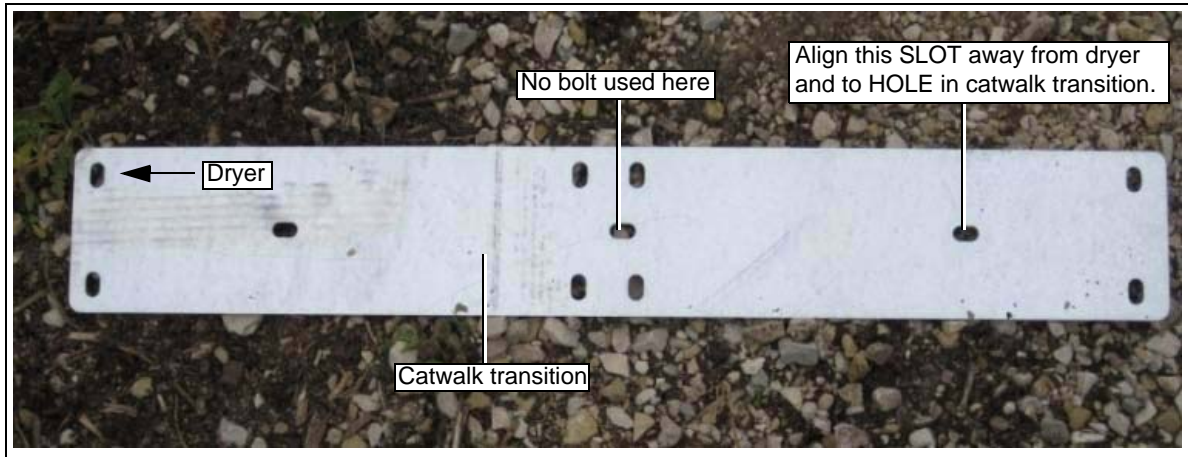
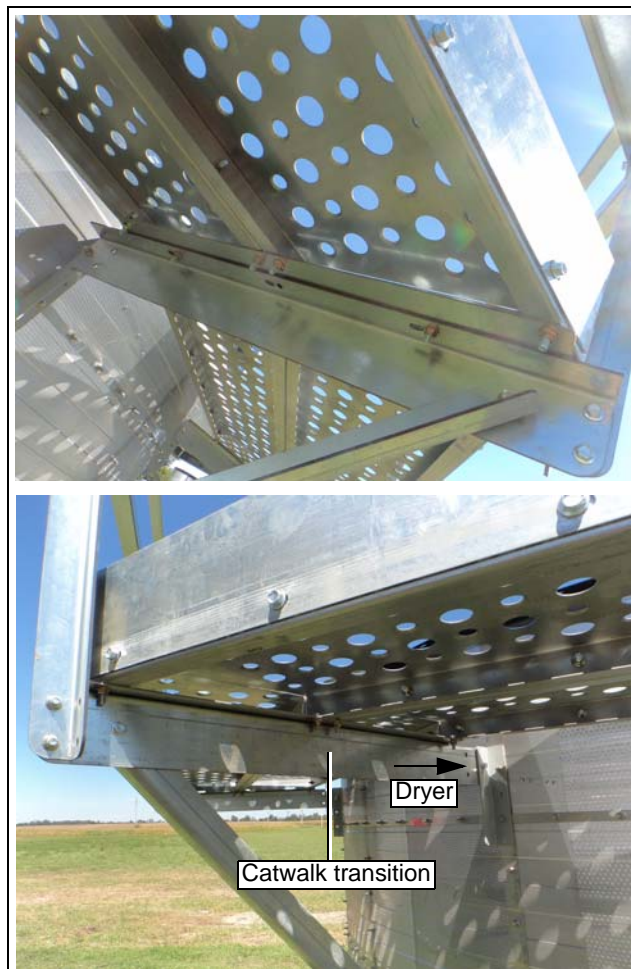

Figure 8W
Figure 8X
11. After attaching the catwalk brace to the catwalk brackets on the dryer wall, attach a catwalk transition to the top of each catwalk brace. (See Figure 8X.)
IMPORTANT: Note the hole alignment on the catwalk transition. The “five (5) hole” pattern near the center of the transition **MUST** be oriented so that the center hole is **AWAY** from the dryer wall. (See Figure 8W and Figure 8X.)
NOTE: Transition must line up on catwalk brace slot to hole. The SLOT indicated in the Figure 8W must be oriented away from the dryer wall. Do NOT fill the middle hole of the transition.